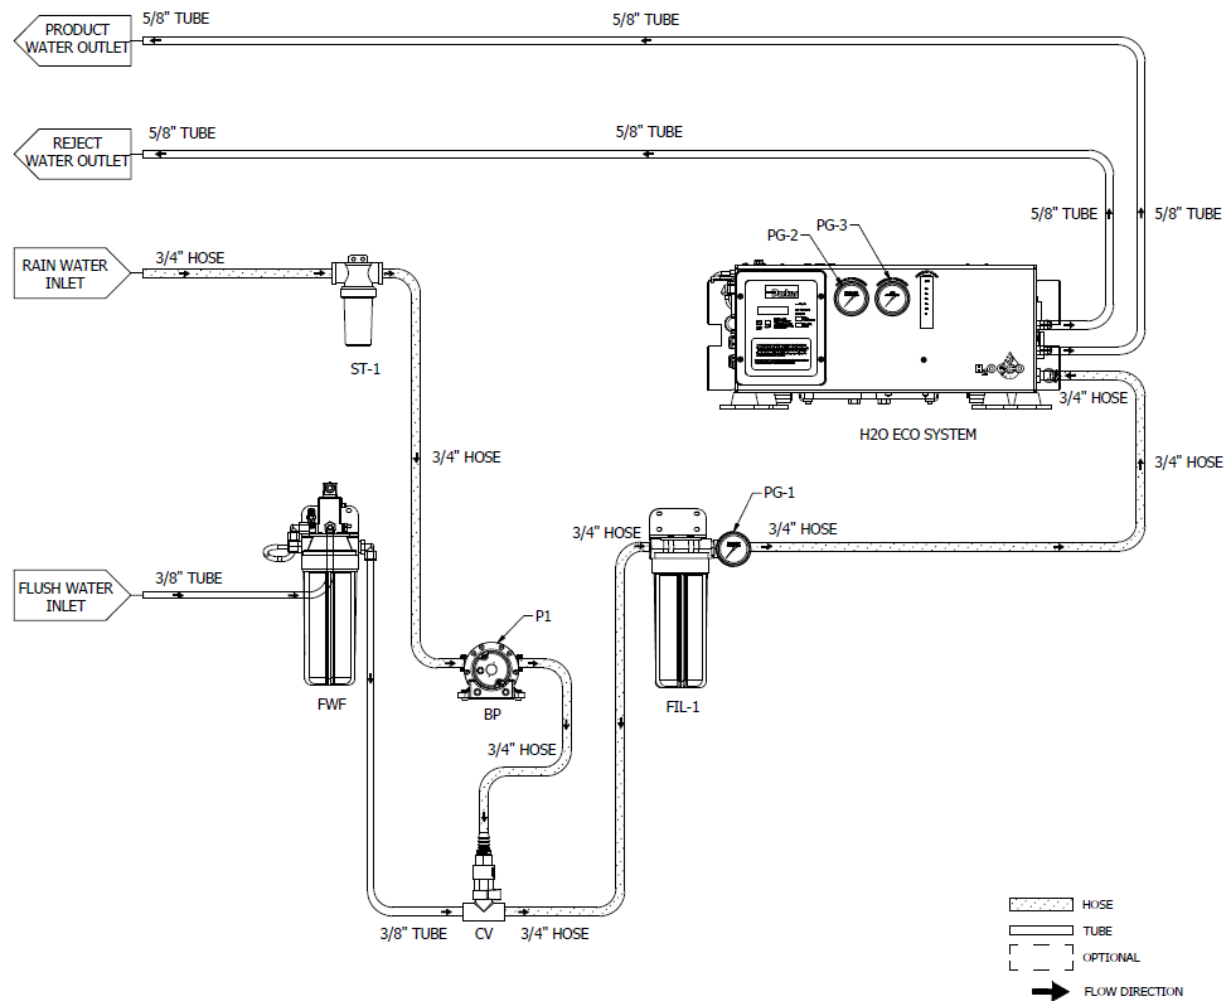
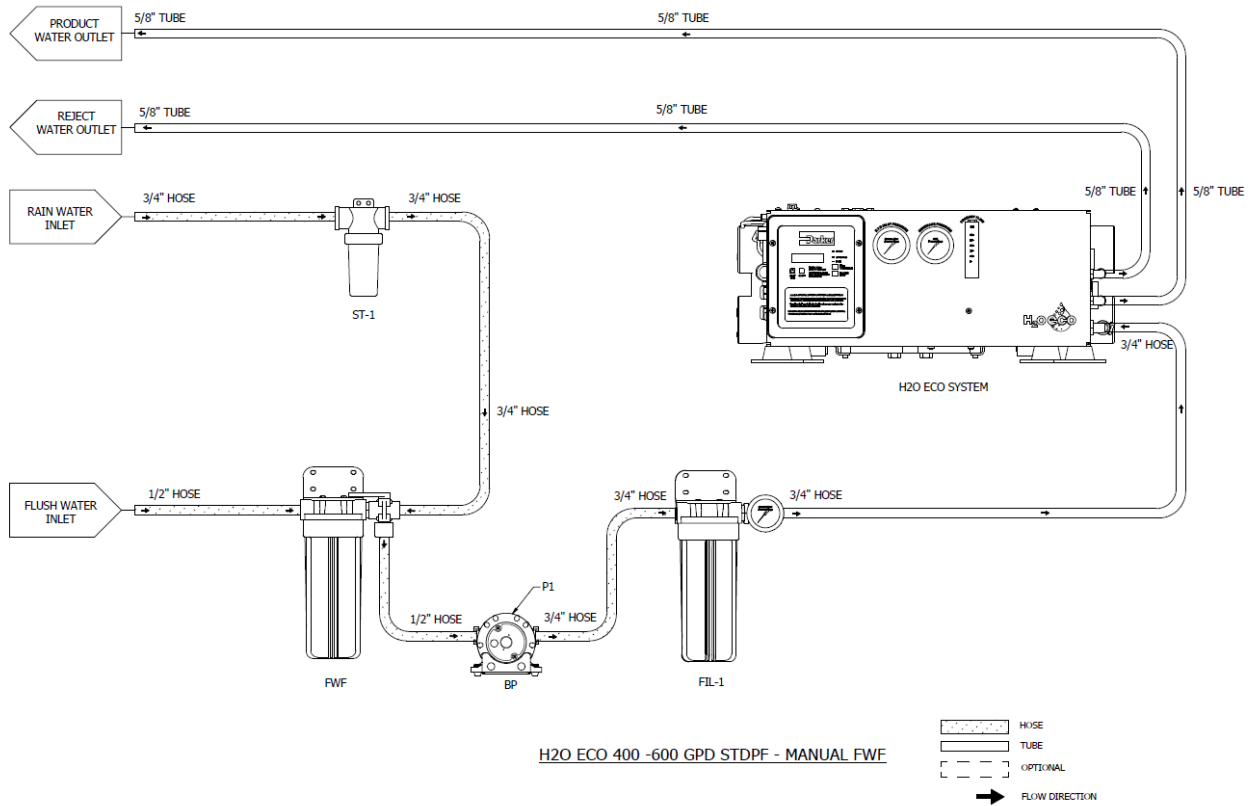

Figure 2.3.1: SYSTEM PLUMBING WITH AUTOMATIC FRESH WATER FLUSH
Figure 2.3.2: SYSTEM PLUMBING WITH MANUAL FRESH WATER FLUSH
- 2) Make the following plumbing connections to the RO unit's piping interfaces shown on the Figure 2.3.1 and Figure 2.3.2.
3) **Booster pump (BP)**: A pump (P1) and motor (M1) assembly that supplies necessary flow of raw inlet water to the system. Mount the booster pump below the water line. Refer to Figure 2.3.1 or Figure 2.3.2.
NOTE: The discharge pressure from the filter housing should be monitored by the low-pressure gage (PG-1) & the system pressure transmitter (PT-1). **If the filter's pressure has significantly dropped (over 10-15 psi) from the time of service, then it is an indication that the 5-micron filter element requires a replacement.** Mount the 5-micron prefilter housing assembly in a convenient location for the operator to change filters. Refer to Figure 2.3.1 or Figure 2.3.2.